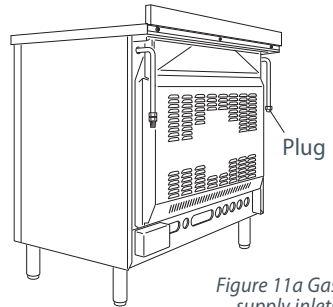
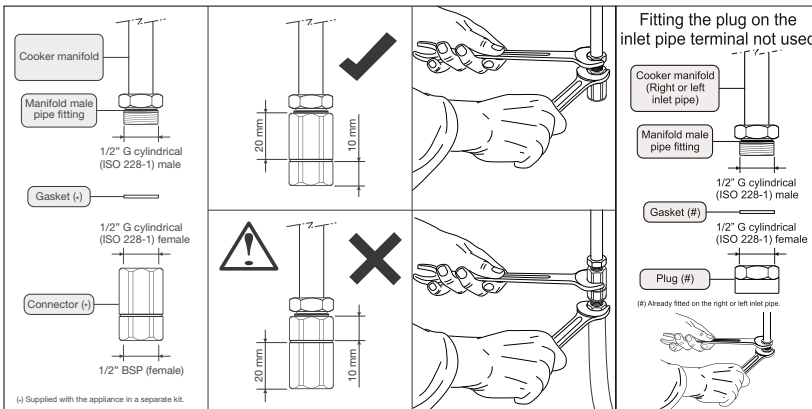

Figure 11a Gas supply inlets
Figure 11b Connecting the gas
- 1 Fit the 1/2" BSP (female) connector (supplied with the cooker in a separate kit) to the gas inlet at the rear of the cooker interposing the gasket. Check the correct positioning of the connector as shown and always use two suitable spanners (Fig 11b).
- 3 Close the unused end inlet pipe with a plug, interposing the gasket (Fig. 11a - Fig. 11b).
- 4 To avoid damage to the appliance gas rail inlet pipe tighten the fittings using two suitable spanners (Fig. 11b).